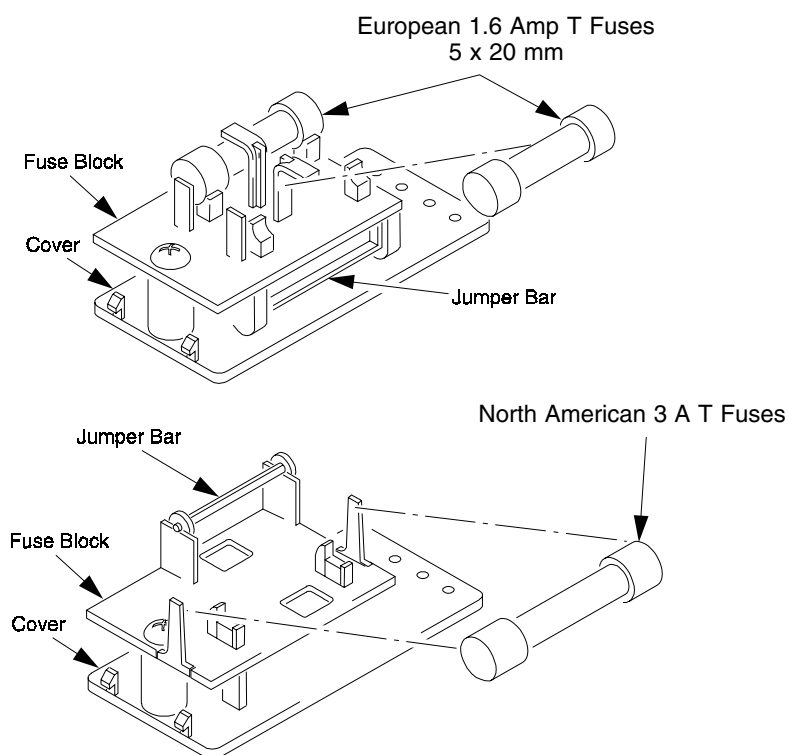

Figure 3-6: Fuse Replacement
4. Replace the fuse with European fuses. Two European fuses are required, but the lower one may be replaced with a dummy fuse, or jumper bar (see Figure 3-6).